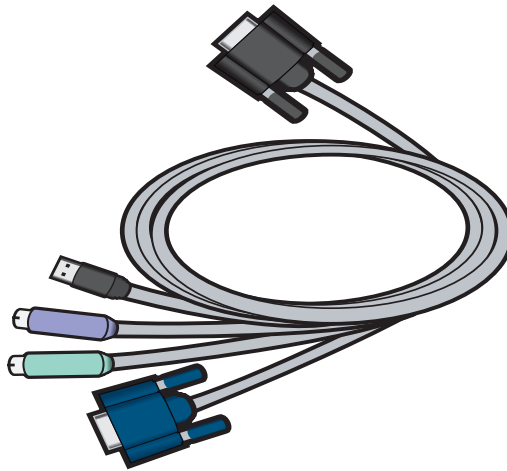
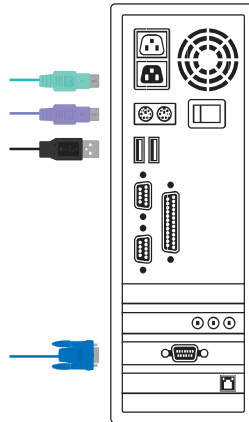
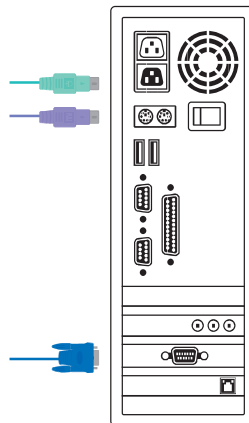

Figure 6 - 4-in-1 KVM combo cable
Figure 7 - USB, PS/2 and VGA Setup
Figure 8 - PS/2 and VGA Setup
A. Connect USB, PS/2 Keyboard, PS/2 Mouse and VGA connectors to your computer. We recommend that users connect computers in the manner shown below. (Figure 7)
B. Connect only PS/2 Keyboard, PS/2 Mouse and VGA connectors to your computer. (Figure 8)
- B. Use the 4-in-1 KVM combo cable (See Figure 6) to connect one or more Slave KVM Switches to any PC port on the Master KVM Switch. The KVM to KVM must be connected through a PS/2 connection. (Please refer to Figure 7 & Figure 8).